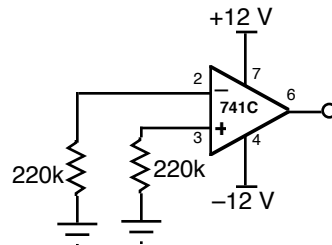

Fig. 6.3
a) *Input offset and Bias Currents.* The 741C has a typical $I_{in(bias)}$ of 80 nA. Assuming that this is the current through each 220 k resistor in Fig. 6.3, calculate the dc voltages at both inputs. Now connect the circuit and measure the input voltages. Repeat this measurement for a FET input op amp such as LF411 or TL071. Calculate $I_{in(off)}$ and $I_{in(bias)}$ in both cases and compare the two op amps.